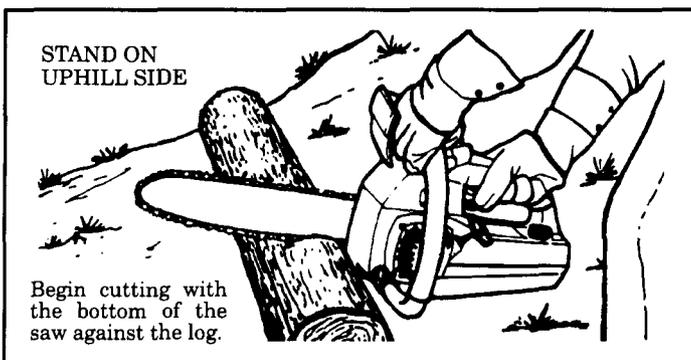

Figure 16
- Begin cutting with the saw frame against the log.** Figure 16 .